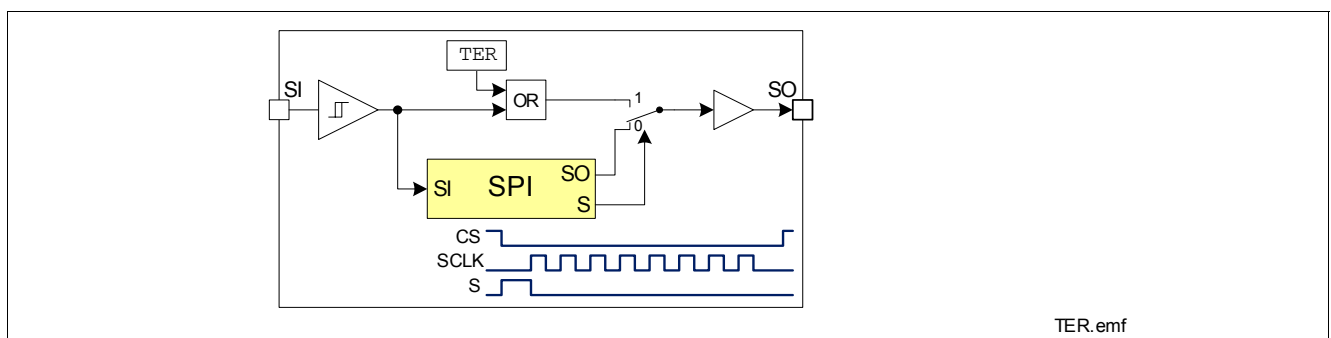

Figure 9 Transmission Error Flag on \overline{SO} Line
- \overline{SO} changes from high impedance state to high or low state depending on the logic OR combination between the transmission error flag (TER) and the signal level at pin \overline{SI} . As a result, even in daisy chain configuration, a high signal indicates a faulty transmission. The transmission error flag is set after any kind of reset, so a reset between two SPI commands is indicated. For details, please refer to Figure 9. This information stays available to the first rising edge of SCLK.